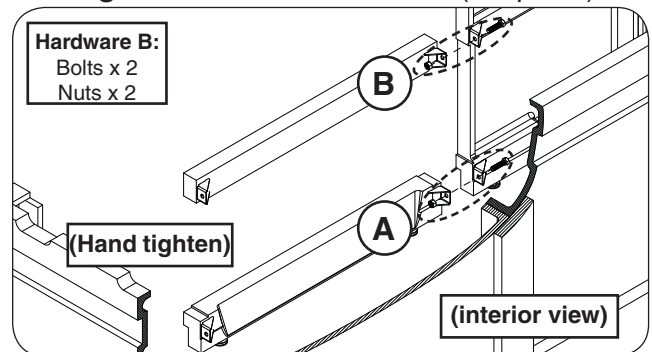

Fig. 10-3 Assemble top and bottom beams
2. Orient the bottom beam as shown. Carefully align the pilot holes, and insert the hardware (hardware kit B) in the order shown. Hand tighten only. See Fig. 10-3, A.
3. Orient the top beam and repeat the hardware installation process (hardware kit B). Hand tighten only. See Fig. 10-3, B.